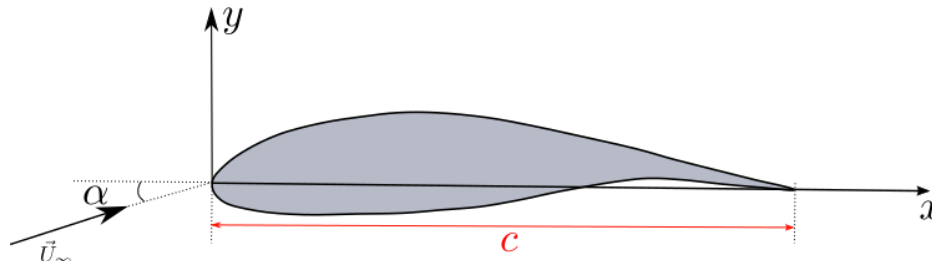

Figure Q2A. Flow across an aerofoil
2. An asymmetric aerofoil (chord length c and span w) is tested inside a wind tunnel with an angle of attack $\alpha = 0^\circ$, as shown in **Figure Q2A**. The measured pressure difference between the upper surface and lower surface ($\delta P(x) = P_{lower}(x) - P_{up}(x)$) at different location is approximated by the following polynomial: